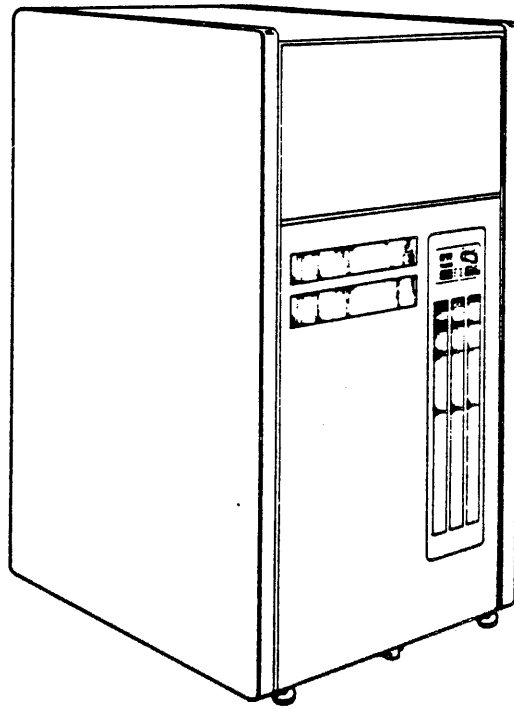

FIGURE 1-1 PDP-11X84 CABINET PRODUCT
- a. PDP-11X84: a kernel system configuration packaged in a 42-inch cabinet. (See Figure 1-1.) The top portion of the cabinet provides a 10.5-inch enclosure for installing peripherals.